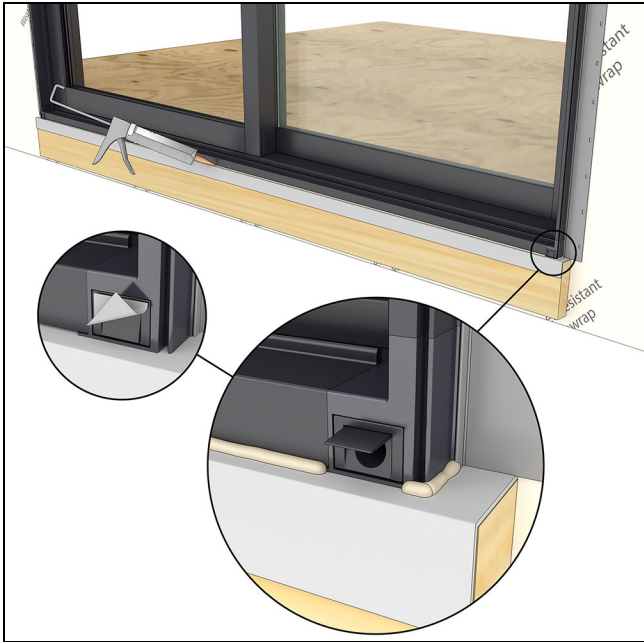

Figure 146
1. Remove the label from in front of the weep doors then, apply a bead of sealant at the exterior face of the sill. Do not seal in front of the sill weeps. See Figure 146